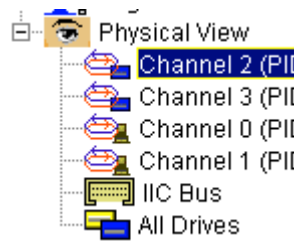

Figure 7-1: select the channel that will be configured
Once the Physical View has been opened and channel icons, as shown in *Figure 7-1*, have appeared under the Physical View icon in the navigation panel, select the channel that needs to be configured (see *Figure 7-1*).
- Step 2.** From **Physical View** double-click on the corresponding Channel icon of the target channel. Channel icons are displayed in the navigation panels on the left side of the RAID View window. The Channel Settings configuration will appear in the RAID View content panel. (See *Figure 7-1*).